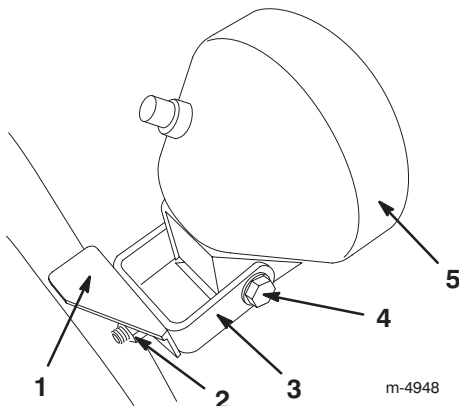

Figure 24
1. Loosen the 2 nuts on the U-bolt that hold the headlight bracket to the handle (Fig. 24).